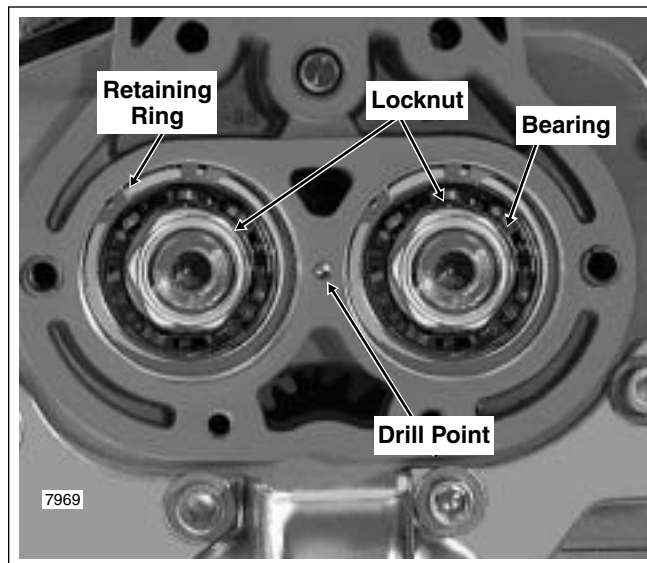

Figure 7-23. Side Door Bearings
Note that one side of the retaining rings are beveled. Always install the ring with the beveled side opposite the bearing. Side doors using the beveled retaining rings are marked with a "drill-point" hole between the bearing bores. See Figure 7-23.
7. Install a spacer and locknut on the threaded end of each shaft and tighten the nuts until finger tight. See Figure 7-23. Final tightening is performed under INSTALLATION, steps 5 and 6.
6. With the transmission locked, tighten the mainshaft and countershaft locknuts to 45-55 ft-lbs (61-75 Nm). See Figure 7-23.